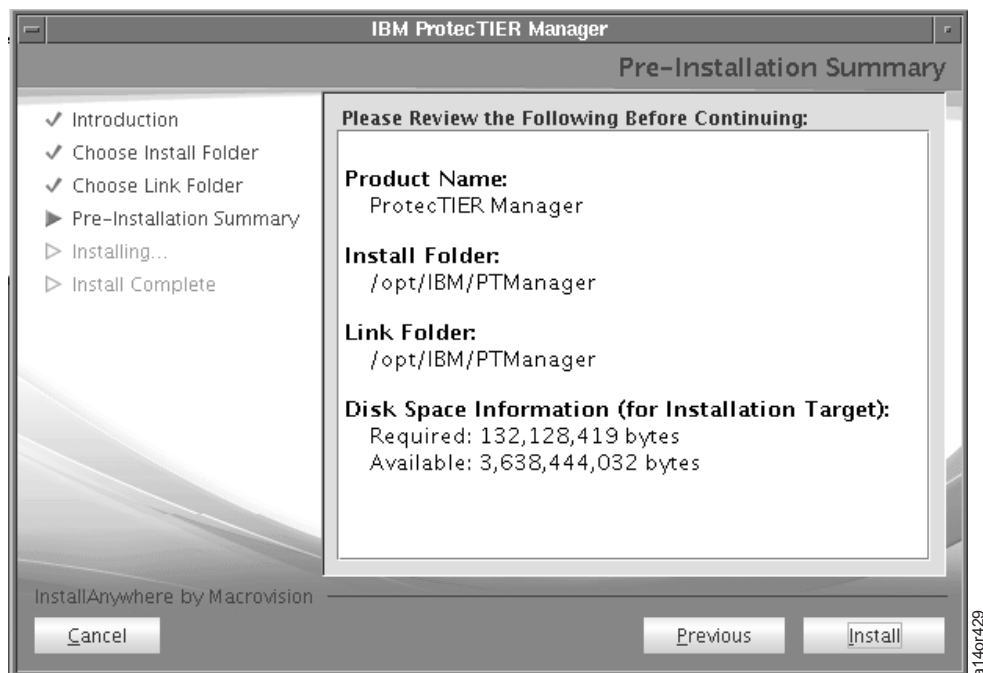

Figure 94. Pre-Installation Summary Screen
9. You see Figure 94. This screen shows you where the ProtecTIER Manager software will be installed.